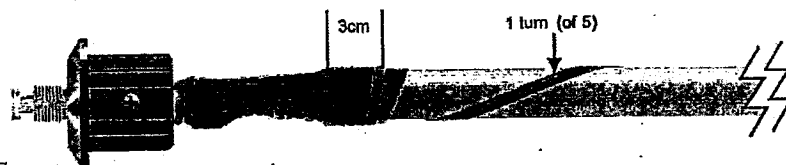

Figure 31.
11. Once the tape has reached the crimp, start to stretch the remaining tape and using 50% overlap, cover the last 3cm of the White XLPE Insulation, over the brass lower connector and up to the black plastic section of the Terminal Base Assembly in multiple layers, completely covering the crimp and achieving as smooth and level a surface as possible, removing all sharp edges. (Figure 31)